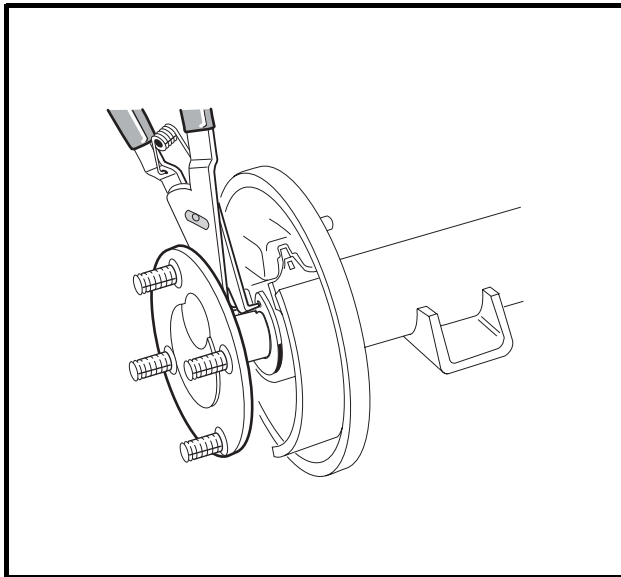
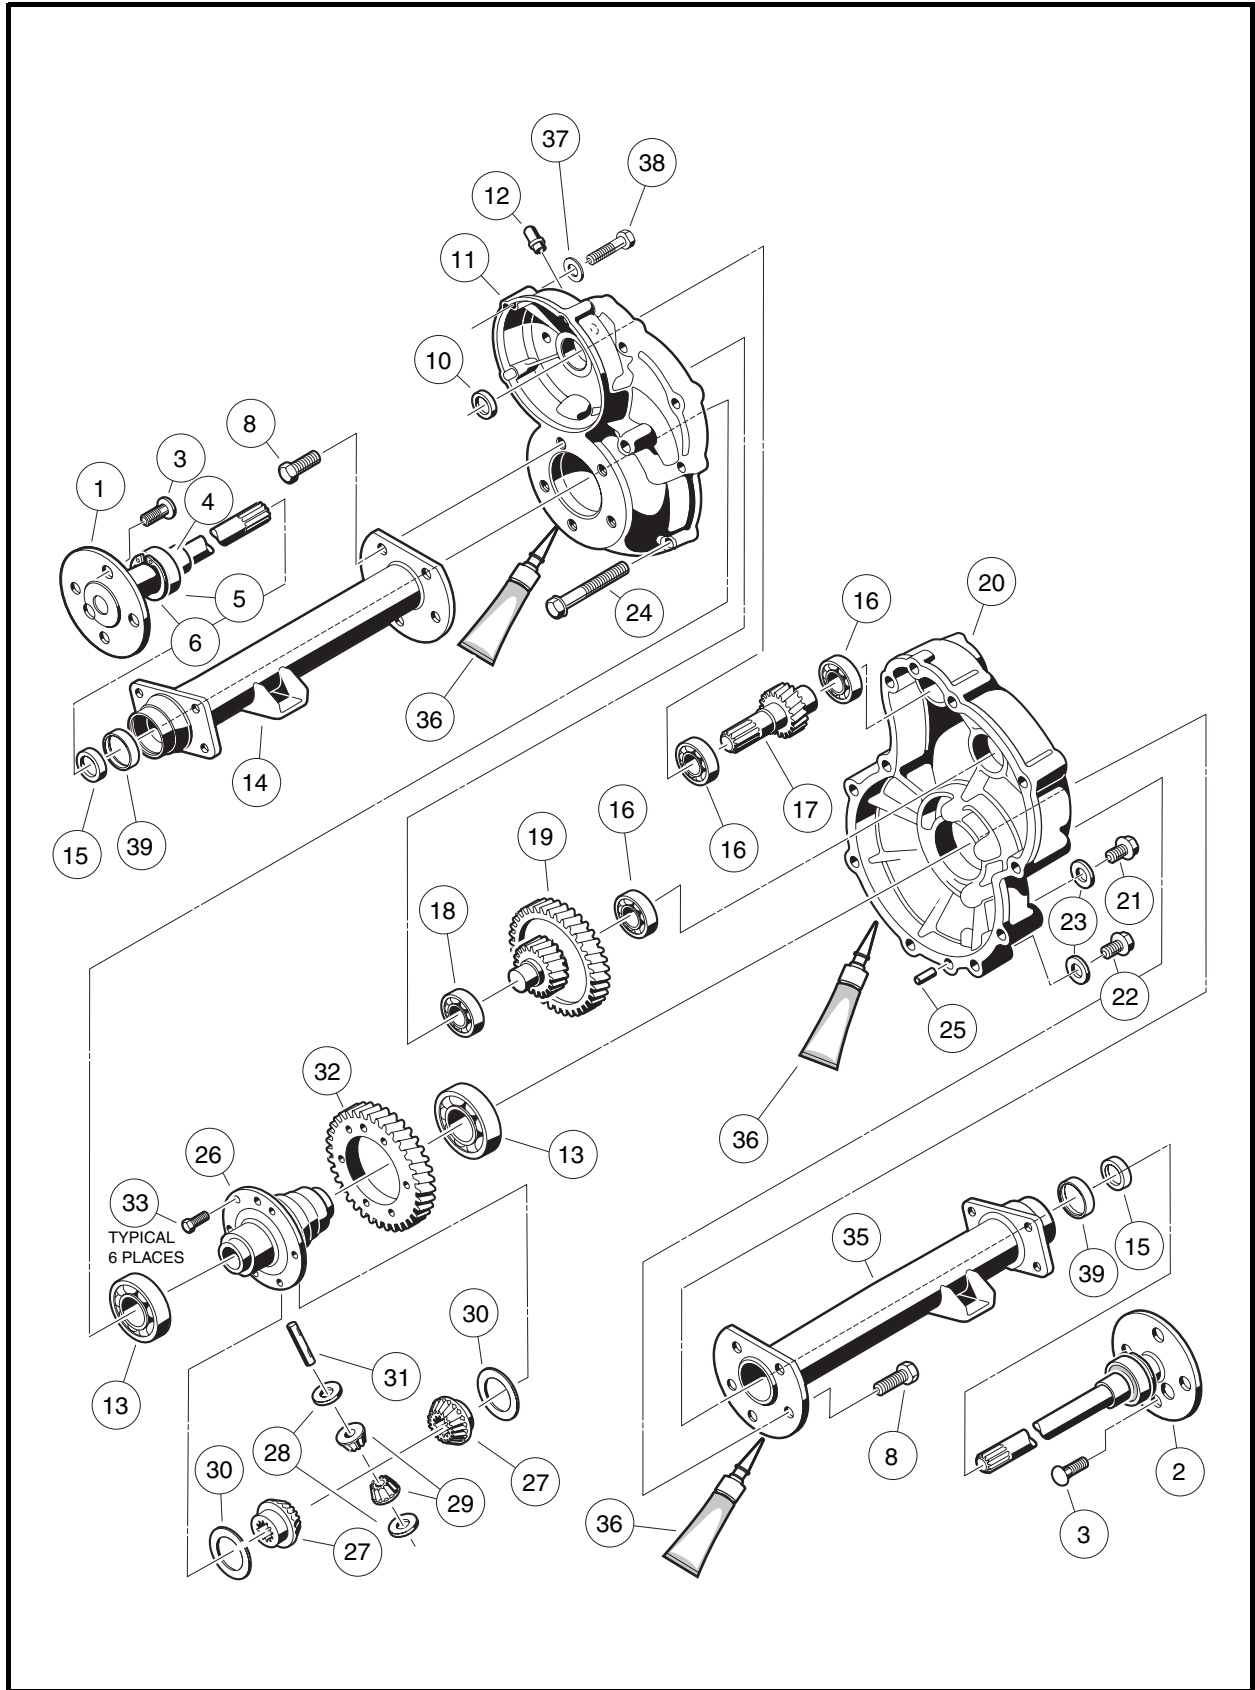
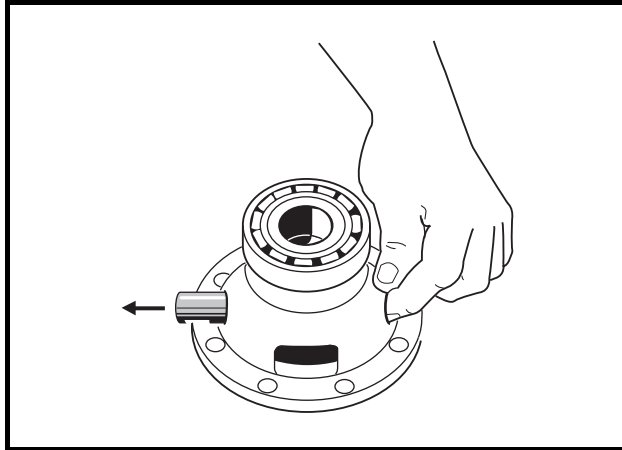

Figure 17-1 Axle Tube
Figure 17-5 Transaxle – Type G
Figure 17-15 Differential Pin
There are two plugs located on the lower half of the transaxle housing. The upper plug (21) (as viewed when the vehicle is on a level surface) is used as a lubricant level indicator (**Figure 17-5, Page 17-3**). When the vehicle is parked on a level surface, the lubricant level should be even with the bottom of the hole. The lower plug (22) is for draining the lubricant. When draining the lubricant, the upper plug should be removed so the lubricant will drain faster. Be sure the drain plug is installed before filling. **See following NOTE.**
4. Use 90° internal snap ring pliers to remove the internal retaining ring (6) from the axle tube (**Figure 17-5, Page 17-3**). **See also Figure 17-1, Page 17-2.**
8. Inspect bearing (5) (**Figure 17-5, Page 17-3**). If the bearing in a Type G transaxle is worn or damaged, the entire axle shaft assembly (1 or 2) must be replaced.
- 1.3. Clean adapter ring seat(s) in the axle tube (14 or 35) **(Figure 17-5, Page 17-3)**.
- 2.1. Insert the shaft, splined end first, through the seal and into the axle tube. Be careful not to damage the seal on the inside of the axle tube hub. Advance the shaft through to the bearing on the shaft, then rotate it to align the shaft splines with the splined bore of the differential side gear (27) **(Figure 17-5, Page 17-3)**. Continue advancing the shaft until the bearing on the axle is firmly seated within the axle tube hub seat.
- 2.2. Use a pair of snap ring pliers to install the retaining ring (6) inside axle tube hub so that it seats against the axle bearing assembly and into the machined slot in the inside wall of the axle tube hub **(Figure 17-5, Page 17-3)**. **See following NOTE.**
- NOTE:** *If the retaining ring (6), axle bearing (5), or sleeve (4) must be replaced, the entire axle shaft assembly (1 or 2) must be replaced **(Figure 17-5, Page 17-3)**.*
Do not remove the axle bearing (5) from a Type G transaxle. If bearing is worn or damaged, the entire axle assembly (1 or 2) must be replaced **(Figure 17-5, Page 17-3)**.
1. To detach axle tubes (14 and 35) from the transaxle housing, remove the bolts (8) (**Figure 17-5, Page 17-3**).
2. Remove 11 bolts (24) that hold housing together.
3. Pull the halves of the housing (11 and 20) apart. If necessary, tap lightly on the spline of the input pinion (17). **See following CAUTION.**
4. Remove input pinion gear (17) by pulling gear out while rocking intermediate gear assembly (19). Lift intermediate gear assembly and differential gear case unit out simultaneously (**Figure 17-5, Page 17-3**). **See following CAUTION.**
5. Use a bearing puller or arbor press to remove bearings (16) from the input pinion gear. If the oil seal (10) is damaged, replace it (**Figure 17-5, Page 17-3**). **See also Figure 17-13, Page 17-8. See following CAUTION.**
6. To disassemble the intermediate gear assembly, press off together the bearing (16) and the gear (19) (**Figure 17-5, Page 17-3**). **See also Figure 17-13, Page 17-8.**
7. Press the bearing (18) off the intermediate gear assembly (**Figure 17-5, Page 17-3**).
- 8.1. Remove the hex bolts (33) and the ring gear (32) from the differential case (**Figure 17-5, Page 17-3**).
- 8.4. Remove the differential pin (31) by pushing pin through differential gear case from one side (**Figure 17-5, Page 17-3**). See also **Figure 17-15, Page 17-9**.
8.7. Inspect the bearings (13) of the differential case (26) and replace them if they are damaged (**Figure 17-5, Page 17-3**). To remove them, press them off. **See following CAUTION.**
1. If bearings (13) were removed during disassembly, install new bearings using an arbor press (**Figure 17-5, Page 17-3**).
- 2.1. Install the pin (31) (**Figure 17-5, Page 17-3**). Apply a small amount of oil to all thrust plates and to both ends of the pin.